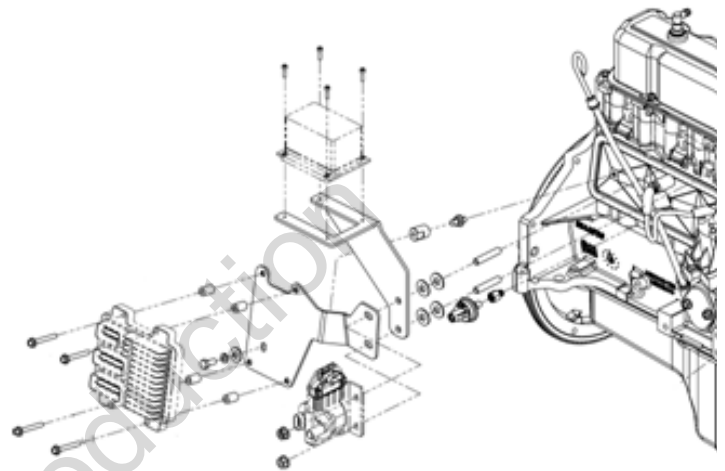

Figure 4
3. Remove bolt securing ECM bracket to the engine and remove the bracket (A, Figure 4).